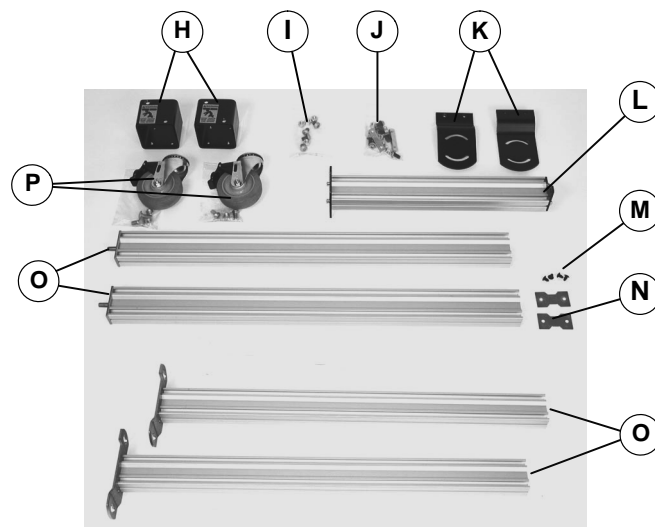
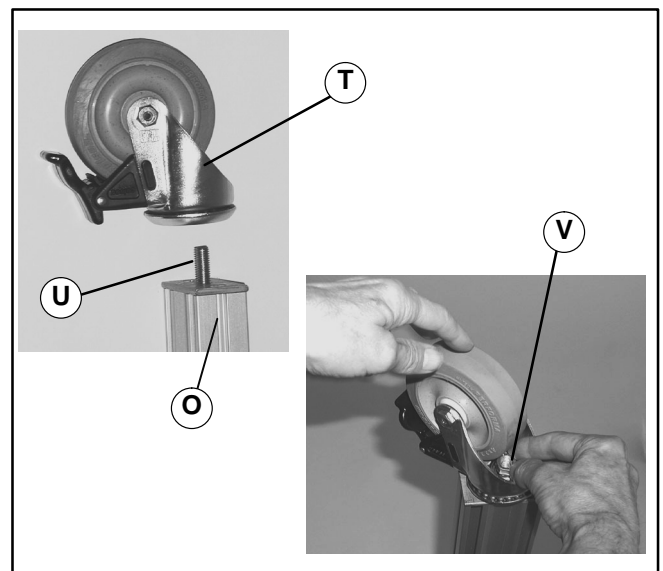
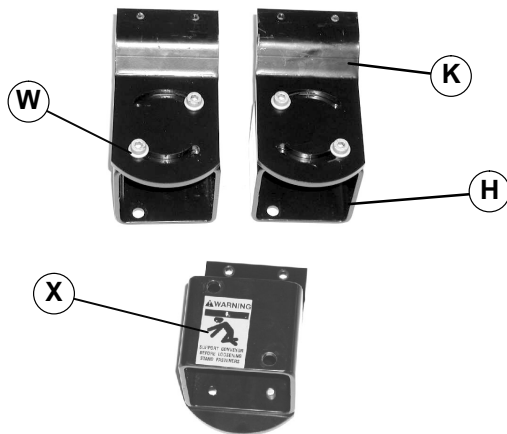

Figure 2
Figure 6
Figure 8
1. Typical components (Figure 2).
2. Open crossmember hardware pack (I of Figure 2).
Caster Kit (P of Figure 2) Components
7. Open caster kit (P of Figure 2). Install caster (T of Figure 6) over bolt (U). Bolt is pre-assembled on stand leg (O). Secure caster with lock nut (V).
- Open fully adjustable stand hardware pack (J of Figure 2). Attach pivot bracket (K of Figure 8) to leg support (H) with two flange socket head screws (W). Do not tighten screws.
19. Tighten four flange socket head screws (W of Figure 8) to 24 ft-lb (33 N-m).